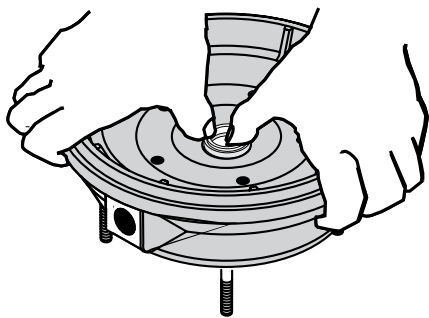

Figure 24 – Press in New Seal
3. Put clean cardboard washer on seal face. With thumb pressure, press ceramic seal half firmly and squarely into seal cavity (See Figure 24). Polished